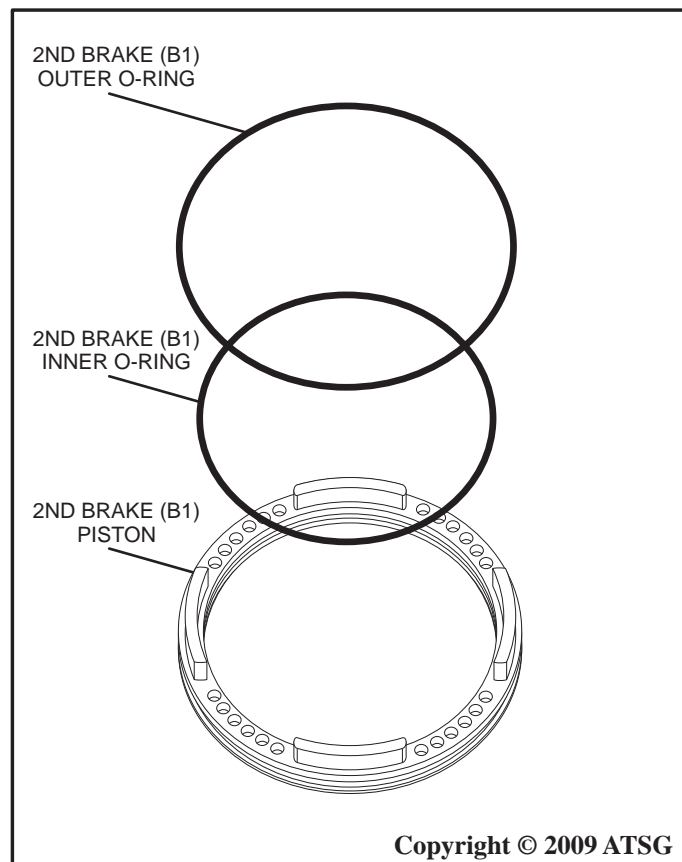

Figure 112
4. Install a new inner and outer o-ring onto the 2nd brake (B1) piston assembly and coat the o-rings with a small amount of Trans-Jel® as shown in Figure 112.